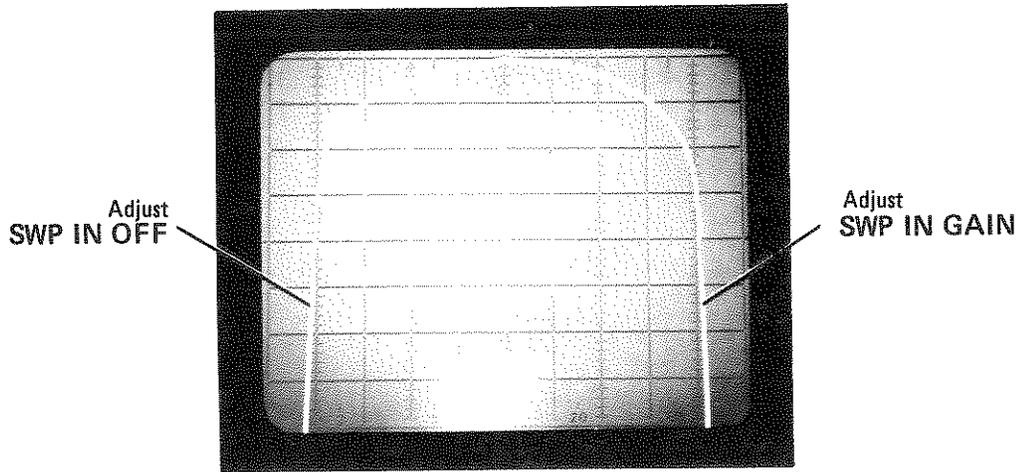

Figure 3-11. Adjustment of SWP IN OFF and SWP IN GAIN Using a Bandpass Filter
- v. If the sweep oscillator does not have z-axis intensity marker capability, the system can still be calibrated by using the response of a frequency sensitive test device, such as a bandpass filter or wavemeter, as a frequency indicator. For instance, as described below in steps w and x, the skirts of a bandpass filter can be used in place of markers by adjusting the sweep width in BYPASS mode so the filter skirts cross the center horizontal graticule line one graticule line to the right of the far left graticule line and one graticule line to the left of the far right graticule line. See Figure 3-11.
- w. On the 8750A, press INPUT. Then, on the Network Analyzer Interface Board (plugged into 8750A rear panel), adjust SWP IN OFF (Sweep Input Offset) to place the filter skirt on the first graticule line to the right of the far left graticule line as shown in Figure 3-11.
- x. At the Network Analyzer Interface Board, adjust SWP IN GAIN (Sweep Input Gain) to place the other filter skirt on the first graticule line to the left of the far right graticule line as shown in Figure 3-11. You may have to adjust the Interface Board SWP IN OFF to keep the left filter skirt on its assigned graticule line. The purpose of these adjustments is to make the horizontal position of the bandpass filter the same in the INPUT mode as it was in the BYPASS mode. Proceed to step y.